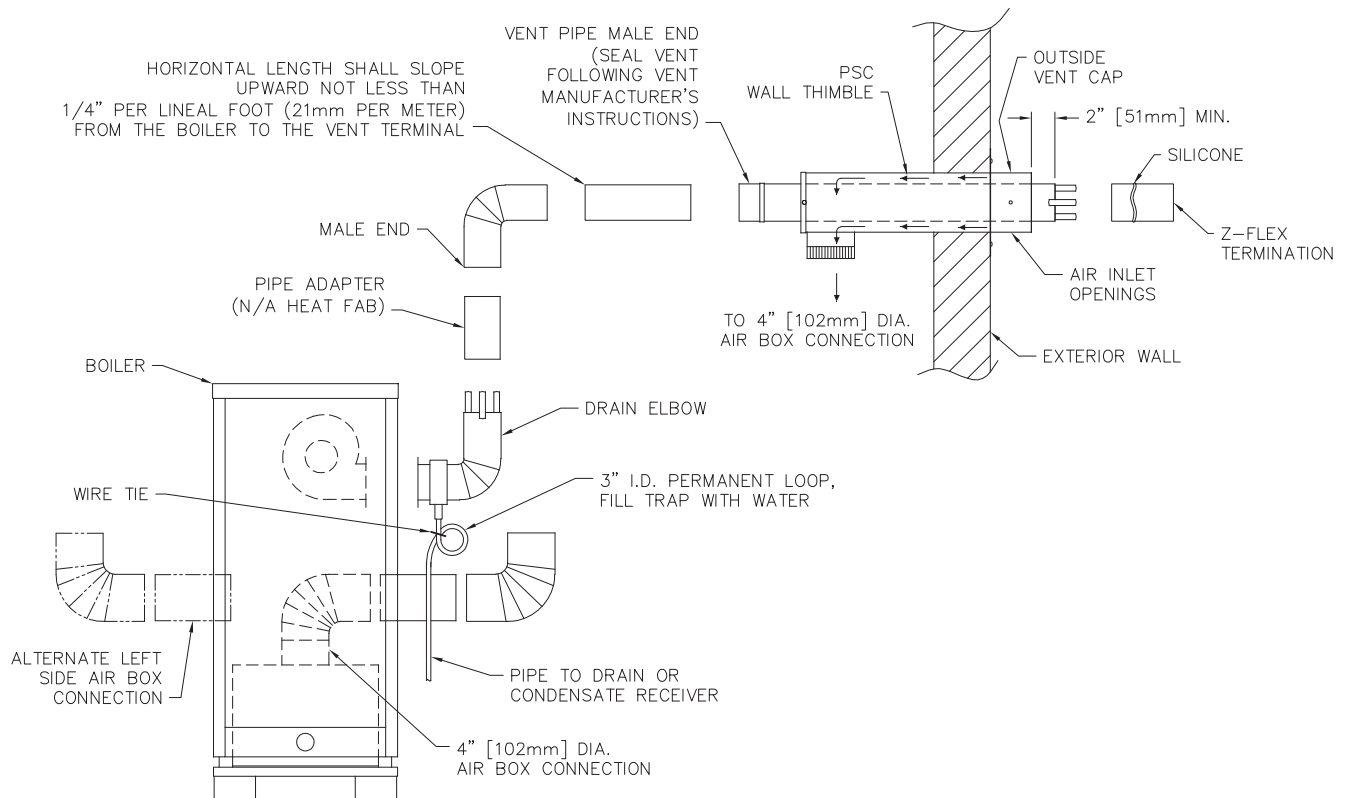

Figure 4.2: Side Wall Venting System
15. Attach Z-Flex #2SVSTPF03 terminal to protruding vent pipe. Refer to Figure 4.2. To attach to HEAT-FAB pipe, insert into pipe end and fold over tabs to secure. Otherwise, silicone terminal to vent pipe.
Locate condensate hose and cable tie in Accessory Carton. Connect hose to drain fitting on condensate elbow. Form a 3" diameter loop and secure with cable tie. Fill loop with water. Pipe to drain or condensate receiver. See Figure 4.2.
2. Use only 3" (76 mm) diameter Type AL29-4C stainless steel vent pipe and fittings for venting of flue gases from the boiler. When using other than Heat-Fab vent pipe, an adapter must be installed on the outlet of condensate elbow. See Figure 4.2. Adapter part numbers are as follows: